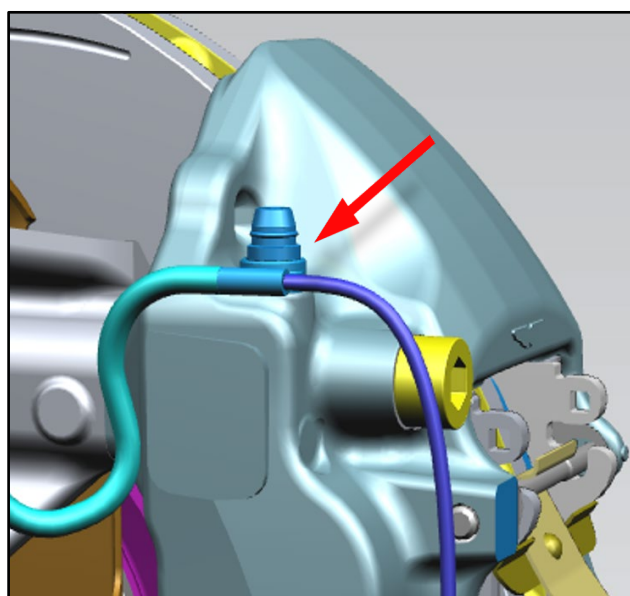

Figure 11
- 14. Make sure the black rubber loop is over the caliper bleed nipple (refer to Figure 11).